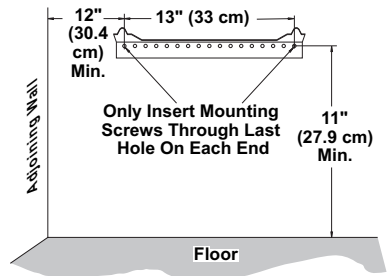

Figure 10 - Mounting Bracket Clearances
⚠ WARNING: Maintain minimum clearances shown in Figure 10. If you can, provide greater clearances from floor and joining wall.
2. Mark screw locations on wall (see Figure 10).